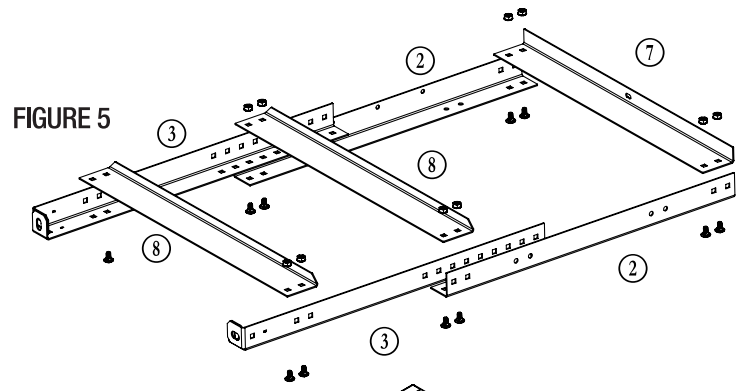
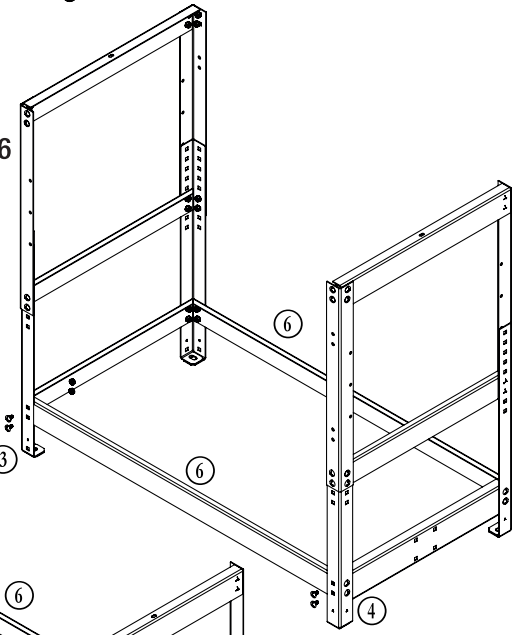

FIGURE 6
FIGURE 7
6. Insert the (2) Carriage Bolts through the assembly and secure using (2) Kep Nuts. The adjacent (2) Carriage Bolts and Kep Nuts will be installed later.
7. Attach one end of the Table Brace ⑦ to the Upper Leg. Make sure the flange with the hole is facing up, toward the top of the Leg.
8. Use (2) Carriage Bolts and Kep Nuts to attach the Shelf Brace ⑧ to the Lower Leg. Make sure the flange with the notched corners is facing up, toward the top of the Leg.
9. Attach the other Long Bottom Leg ③ and the Upper Leg ① to the Table Brace ⑦, Shelf Brace ⑧ and Wheel Brace ⑨ using Carriage Bolts and Kep Nuts.
10. Place a Long Shelf Brace ⑥ between the previously assembled sides and secure using (2) Carriage Bolts and (2) Kep Nuts each side. **FIGURE 6.**
11. Install another Long Shelf Brace ⑥ on the opposite side of the first. You should now have two Braces installed.
12. Place another Long Shelf Brace ⑥ between the sides and secure using (2) Carriage Bolts and (2) Kep Nuts each side. **FIGURE 7.**
13. Install another Long Shelf Brace ⑥ on the opposite side of the first. You should now have four Braces installed.